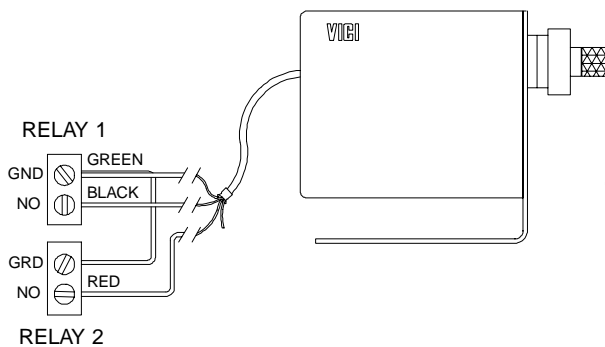

Figure 2: Dual relay connection
If the data system has two relays available, then one relay can be dedicated to each position of the actuator. This is ideal, since it allows the manual switch to function normally. Connect the black wire (INJECT) to the normally open (NO) terminal of the first relay and the the green wire (GROUND) to its common or logic ground terminal. Connect the red wire (LOAD) to the normally open (NO) terminal of the second relay, and connect a jumper wire from the common or logic ground of the first relay to that of the second. (**Figure 2**)